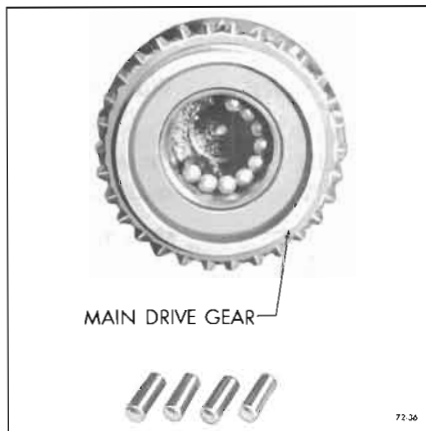

Figure 72-36—Installing Needle Bearings
5. Install fourteen (14) needle bearings in the main drive gear, using heavy grease to hold the bearings in place. See Figure 72-36.